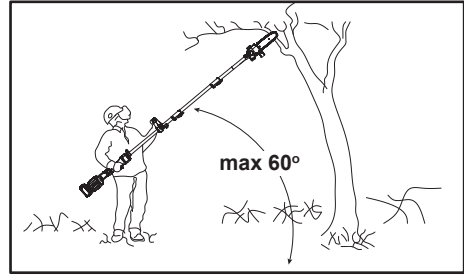

Fig. 46
5. Always hold the product at an angle of not more than 60° from the horizontal level. Otherwise safe operation is not possible (Fig. 46).